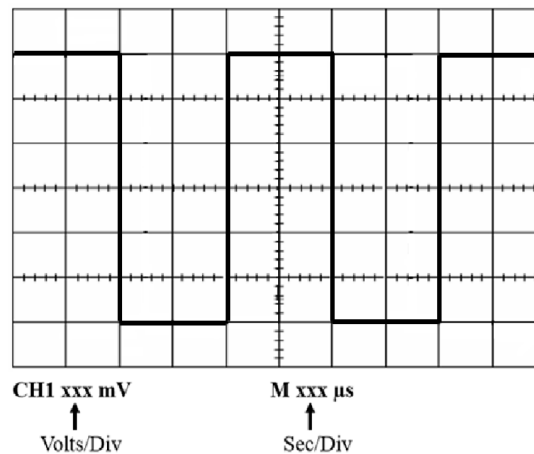

Figure E1.6 Vertical and horizontal scale
2. Adjust the **vertical** scale and position to allow the waveform to occupy 6 divisions vertically (see Figure E1.6) and record the VOLT/DIV setting:
- Adjust the **horizontal** scale of the waveform by turning the **SEC/DIV** and **POSITION** knob to display 2.5 cycles of the waveform (see Figure E1.6). Record the SEC/DIV setting: